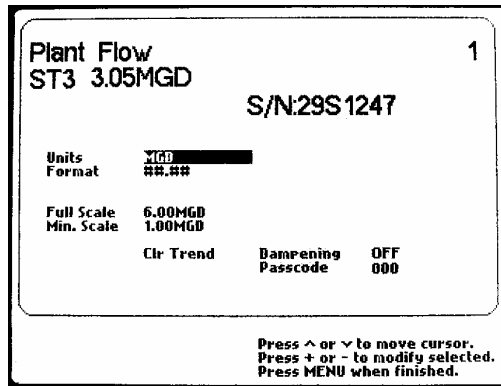

Figure 49 - Channel Setup Screen for an ST3 Channel
3. On the CHANNEL SETUP screen (Fig 49), the UNITS field will be highlighted. Press the ↓ key once to switch the highlight to the FORMAT field.
From the factory, the analog input units are not scaled, so that a 20 mA input will appear as a value of 20, while a 4 mA input will appear as a value of 4. This can be corrected to match the scaling of the customer's 4 to 20 mA device by using the FULL SCALE and MIN SCALE parameters that appear on the Channel Setup Screen (Fig 49). Note: Be sure to set the FORMAT for this channel before adjusting these scaling values.
1. Navigate to the CHANNEL SETUP screen (Fig 49). (See steps 1 and 2 of the previous procedure.)